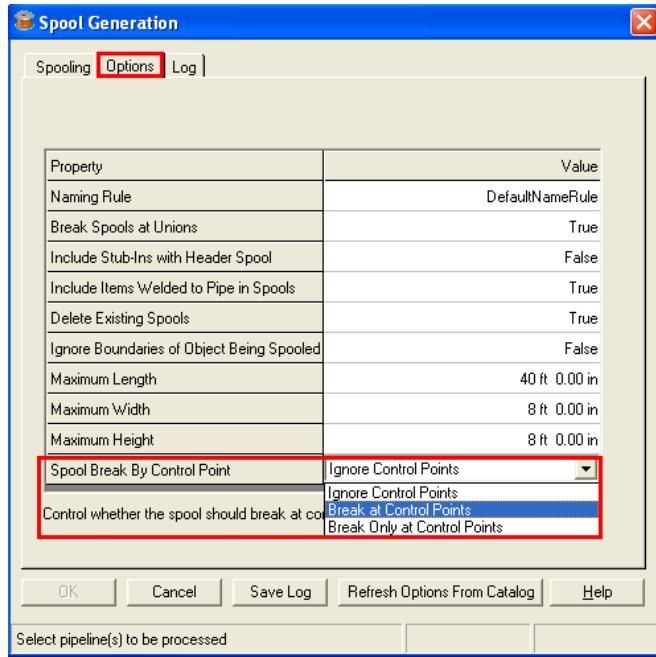

Figure 13. 27: Defining Options in the Spool Generation Dialog Box
8. On the **Options** tab in the **Spool Generation** dialog box, select the **Break at Control Points** option in the **Spool Break By Control Point** drop-down list, as shown in Figure 13. 27.